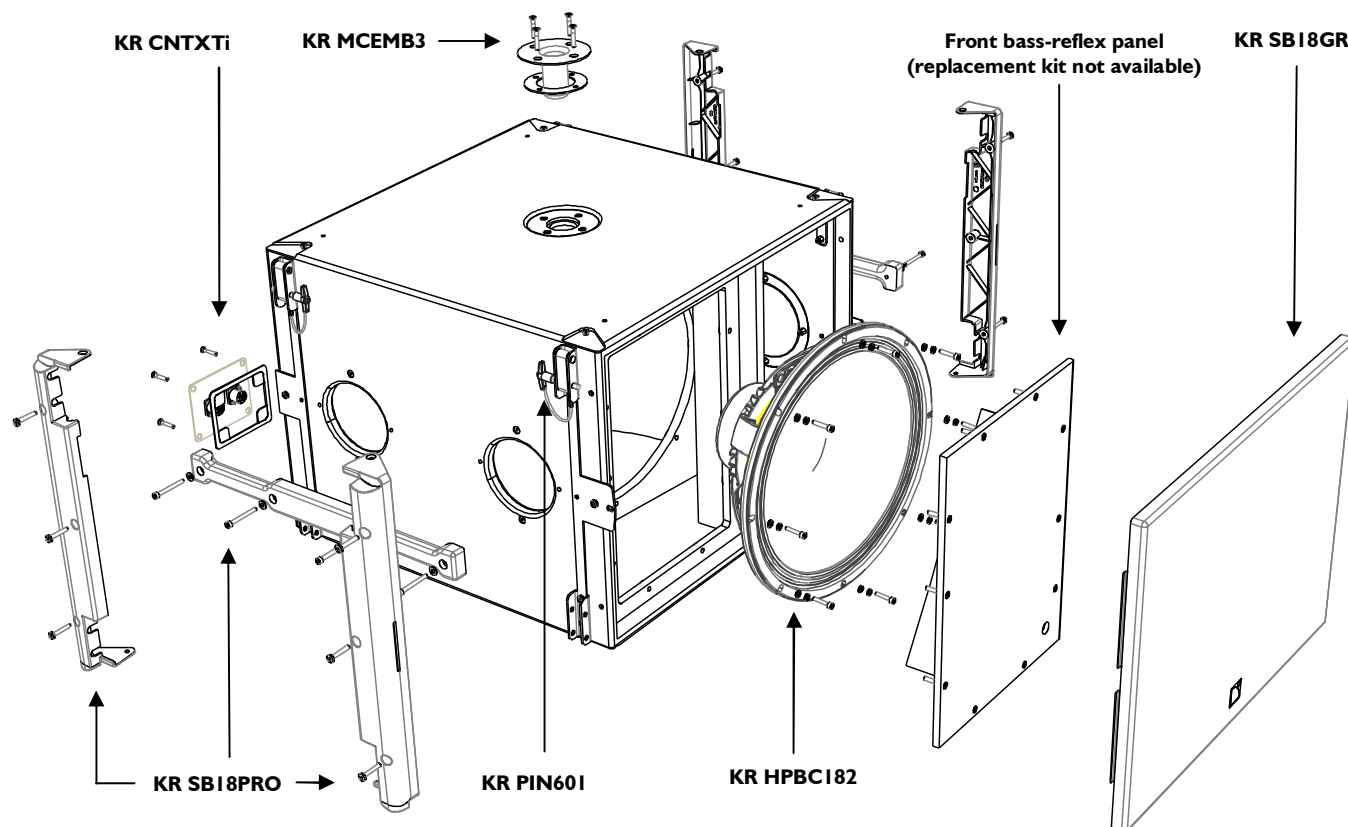

Figure 13: SB18 exploded view
The replacement kits (KR) available for the customer are shown in Figure 13 and listed in Table 5 with reference to the corresponding service procedures. Table 6 is a list of all tools needed for SB18 service (not included).